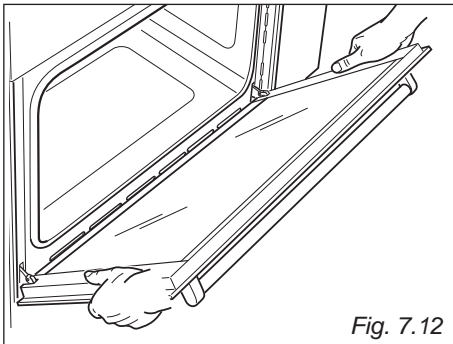

Fig. 7.12
- Hold the door as shown in fig. 7.12.